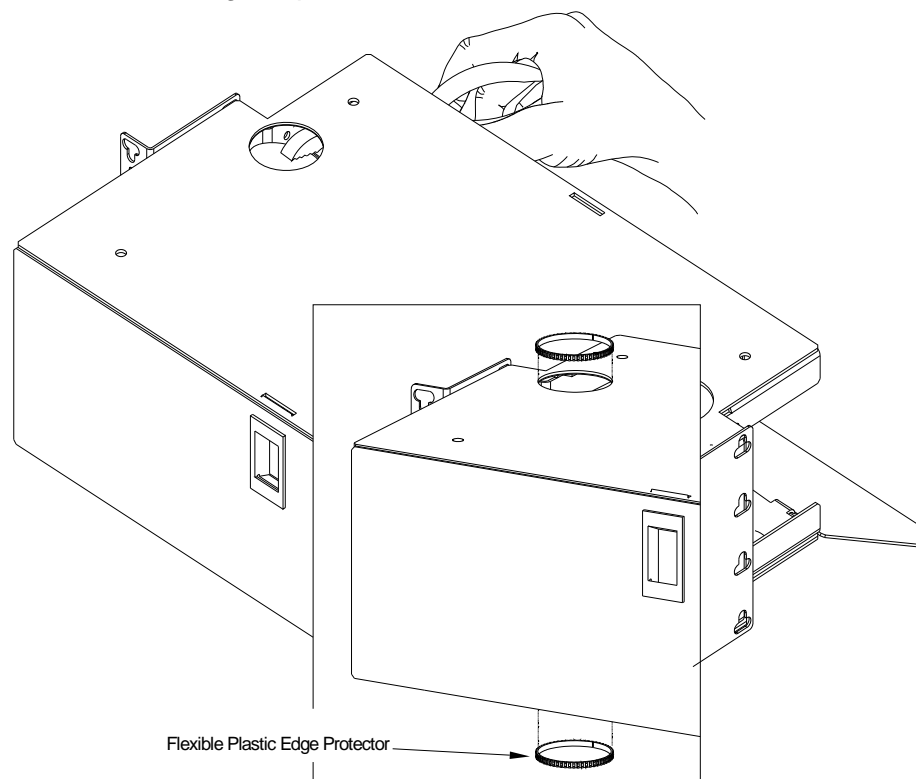

Figure 30 - Removing Knockouts & Installing Plastic Grommets
1. If applicable, if you plan to pass fiber strands, cables, and/or tubing through the 1-½ in. (38.1 mm) diameter holes in the tops and bottoms of panels, see the notes below and then knock out the applicable fire-abatement plugs covering these holes, as shown in Figure 30. Install flexible edge protectors (or a standard grommet for 1½ in. holes) in place of plugs.